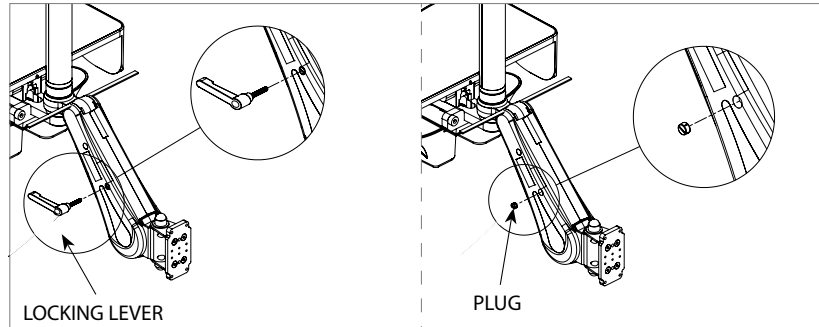

Figure 4
6. Once the arm is balanced correctly, remove the **LOCKING LEVER** (not included) and close the **LOCKING LEVER** hole with the **PLUG** (not provided) (Figure 4). Keep the **LOCKING LEVER** safe for future maintenance or troubleshooting purpose.